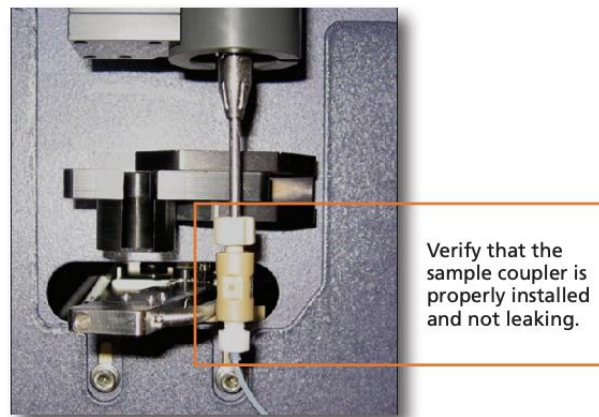

Figure 1 - Sample Coupler connected to the SIP
2. **Carefully** attach the sample coupler to the SIP. Loosen a bit the top nut of the sample coupler and push it onto the SIP until you feel a stop. Hold the sample coupler in place and tighten the top nut (see Figure 1).